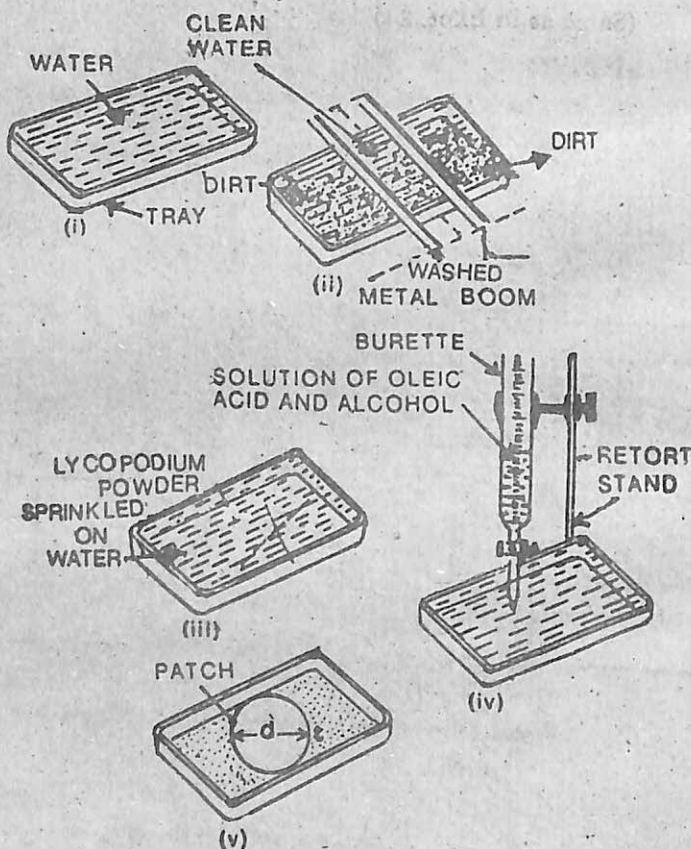

Fig. 27.1.
3. Place the given glass bottom tray (30" × 30" as used in photography) with graph paper attached to the underside on the bench. The tray is cleaned with clear cotton and detergent powder and rinsed with water a number of times without touching any of its sides with fingers so that it is free from grease etc. Fill the tray partially with clean tap-water and level it carefully by using rubber wedges. Now fill the tray to *over-brimming* with further levelling (Fig. 27.1).
4. Clean the water surface by moving the two *waxed metal booms slowly from the middle to the two ends of the tray [Fig 27.1 ii)]. The booms should be left near the end of the tray.
5. When the water in the tray has become quite steady sprinkle the surface with lycopodium powder. [Fig. 27.1 (iii)].
6. Arrange the burette so that its jet is just above the surface of the water in the tray [Fig. 27.1 (iv)].
8. Using the graph paper estimate the area of the **patch of clear liquid formed [Fig. 27.1 (v)]. If the patch is rough circular then use metre rod to measure the maximum diameter of the patch produced in two directions.